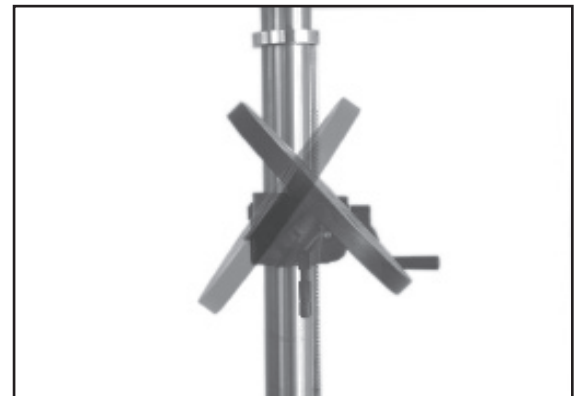

Figure 25
1. Loosen the nut below the table. (Fig. 25)